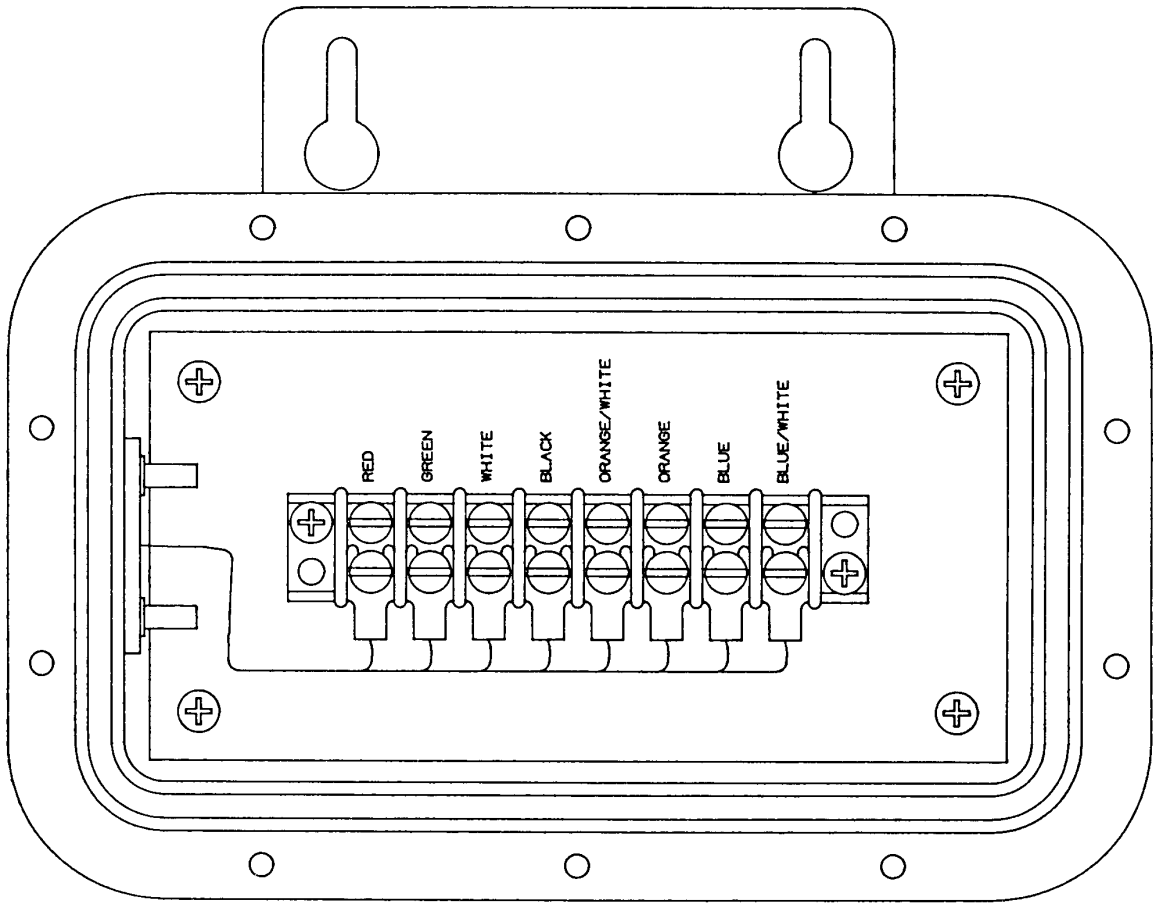

Figure 2-11 Connecting the Custom-Cable Leads to the Disconnect-Box Barrier Block
Thread the cable through the fitting until there is enough lead wire to connect the cable to the barrier block noted in Figure 2-11. If you use conduit, thread the lead wires through the conduit before threading it through a compres-
5. Attach the lead wires as shown in Figure 2-11.